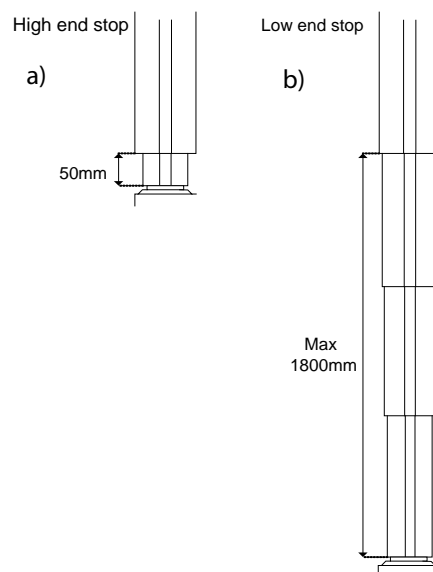

Fig. 5-126 High and low end stops
9. Move the Z-axis upward until the inner segment of the column is 5 cm from the outer segment (see Fig. 5-126 *High and low end stops*).
11. Place the stand (Z) at the position for the low end stop (maximum range of 1750 mm, between the end stops, see Fig. 5-126 *High and low end stops*).
3. Move the Z-axis upward until the inner segment of the column is 7 cm from the outer segment, see a) in Fig. 5-126 *High and low end stops*.
11. Place the stand (Z) at the position for the low end stop (maximum range of 1750 mm, between the end stops), see b) in Fig. 5-126 *High and low end stops*